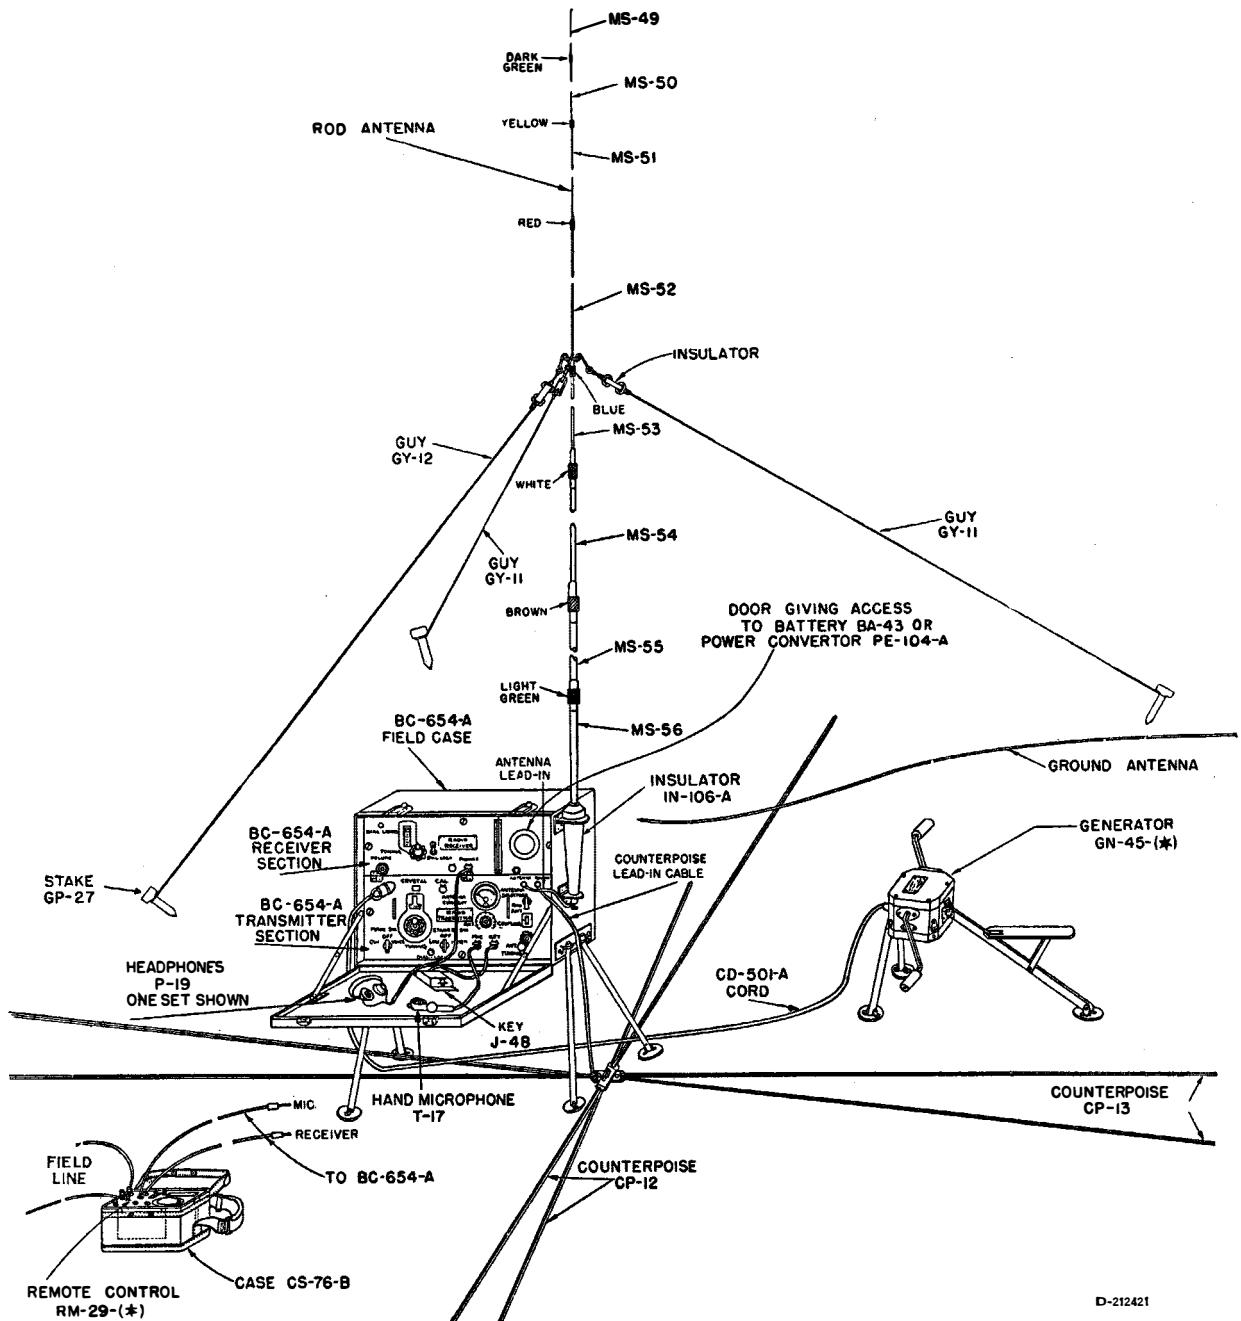

FIG. 8. RADIO SET SCR-284-A—FIELD INSTALLATION COMPONENTS
g. *Antennas*:— (FIG. 8)
- (1) Unroll Counterpoise CP-12, placing together the two wires which are on each end of junction, and lay them on the ground in opposite directions. (Sketch a.) Junction of wires must be placed on the ground directly under right end of Transmitter-Receiver Case. (See Figure 8.)
- (2) Unroll Counterpoise CP-13 similarly except crosswise to CP-12.
- (3) Using screw and wing nut on CP-12, fasten the two junctions together. (See Sketch b.)
- (4) Spread wires equally apart—"star shape." Note: SCR-284-A may be operated using only Counterpoise CP-12 (the one with lead-in wire attached), with wires spaced equally in four